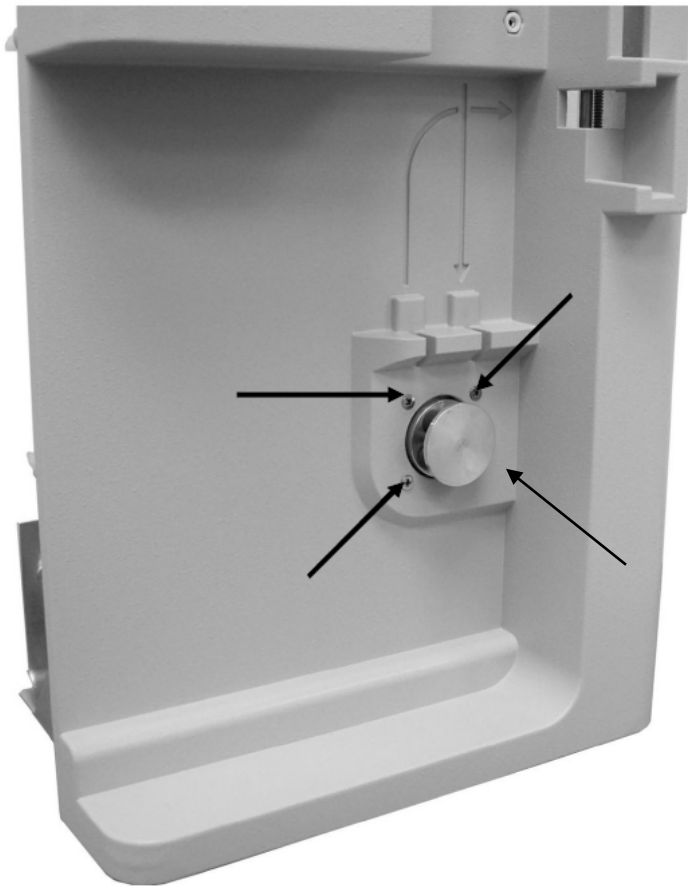

Figure P11 - Pump
4. Remove the four screws from the front of the analyzer using a Phillips head screw driver. See Figure P11.